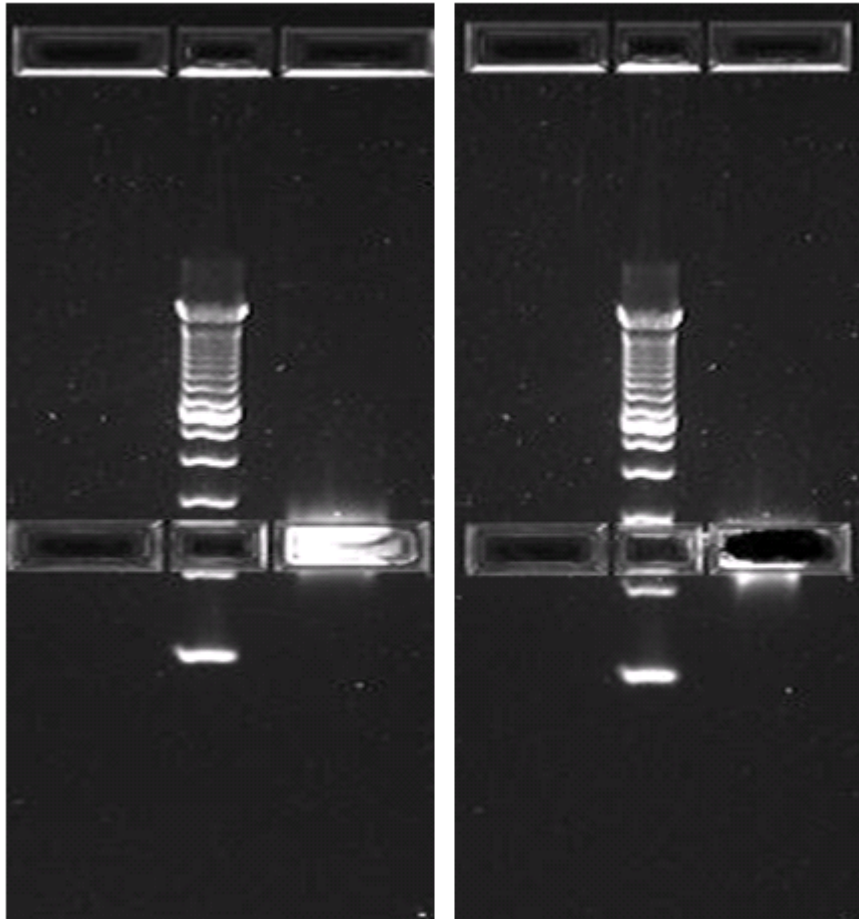

Figure 15 Collection of the of 250 to 325-bp library band from the SOLiD™ Library Size Selection gel.
6. Collect all of the DNA from the collection well using a 20- $\mu$ L pipette fitted with a tip (see Figure 15 on page 85). Do not perforate the bottom of the agarose collection well. Due to migration of the DNA into the bottom of the well, some residual DNA remains underneath the well.